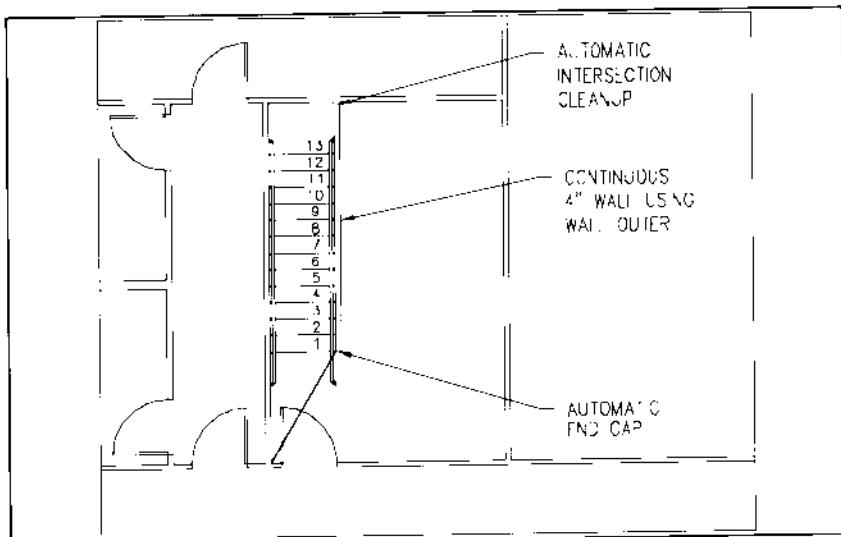

Figure 63.
- > Pick offset/inner side of wall:[pick right side of wall, as shown in Figure 63]